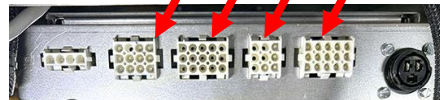

Figure 14
19. Mark the four (4) center Molex connectors positions for easy reassembly (see Figure 14).